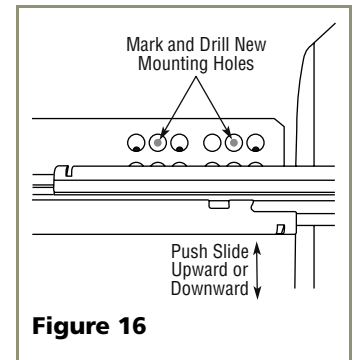

**Figure 15**
3. Retighten the screws. See **Figure 15**.